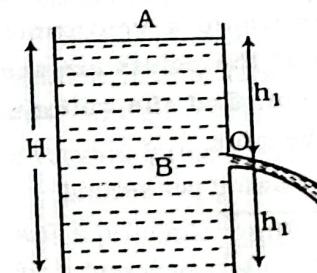

Fig. 6.18
6.9. When a liquid falls freely through an orifice show that for the range of the liquid to be maximum the orifice must be at half of the height of the liquid column. (Fig. 6.18)